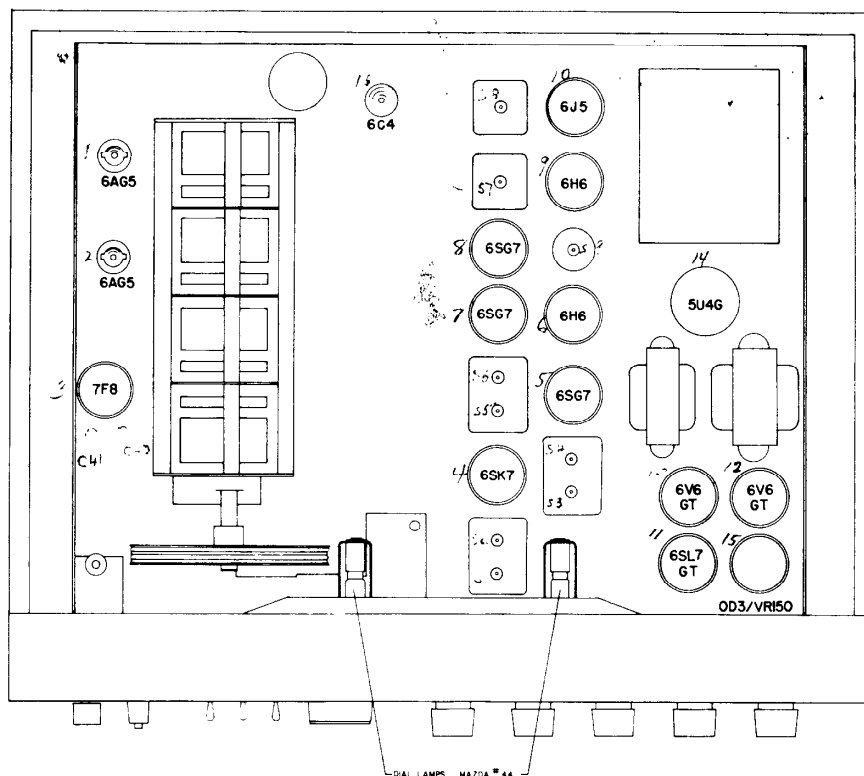

Fig. 6. Top view showing location of tubes and dial lamps
**TUBE REPLACEMENT** - The types of tubes required and their relative position in the receiver are shown in the illustration, Fig. 6. When installing a replacement tube, insert the center guide pin into the center hole of the tube socket; rotate the tube until the key on the guide pin drops into the notch in the socket hole; and push down until the base of the tube rests firmly on the socket. A slightly different technique must be used on the miniature tubes. They have seven small pins which have to be lined up with the socket holes before pushing into place. Handle with care as all tubes are considered fragile and do not tolerate much mechanical abuse.
**DIAL LAMP REPLACEMENT** - Refer to Fig. 6 for the location of the dial lamps used in the receiver. To gain access to defective lamps, open the cabinet cover, remove the light shield (four screws) and unclip the dial lamp socket by compressing the side springs. The socket may then be brought out into the open to change the defective lamps. Replace all lamps with 6-8 volt Mazda No. 44 (blue bead) or equivalent.